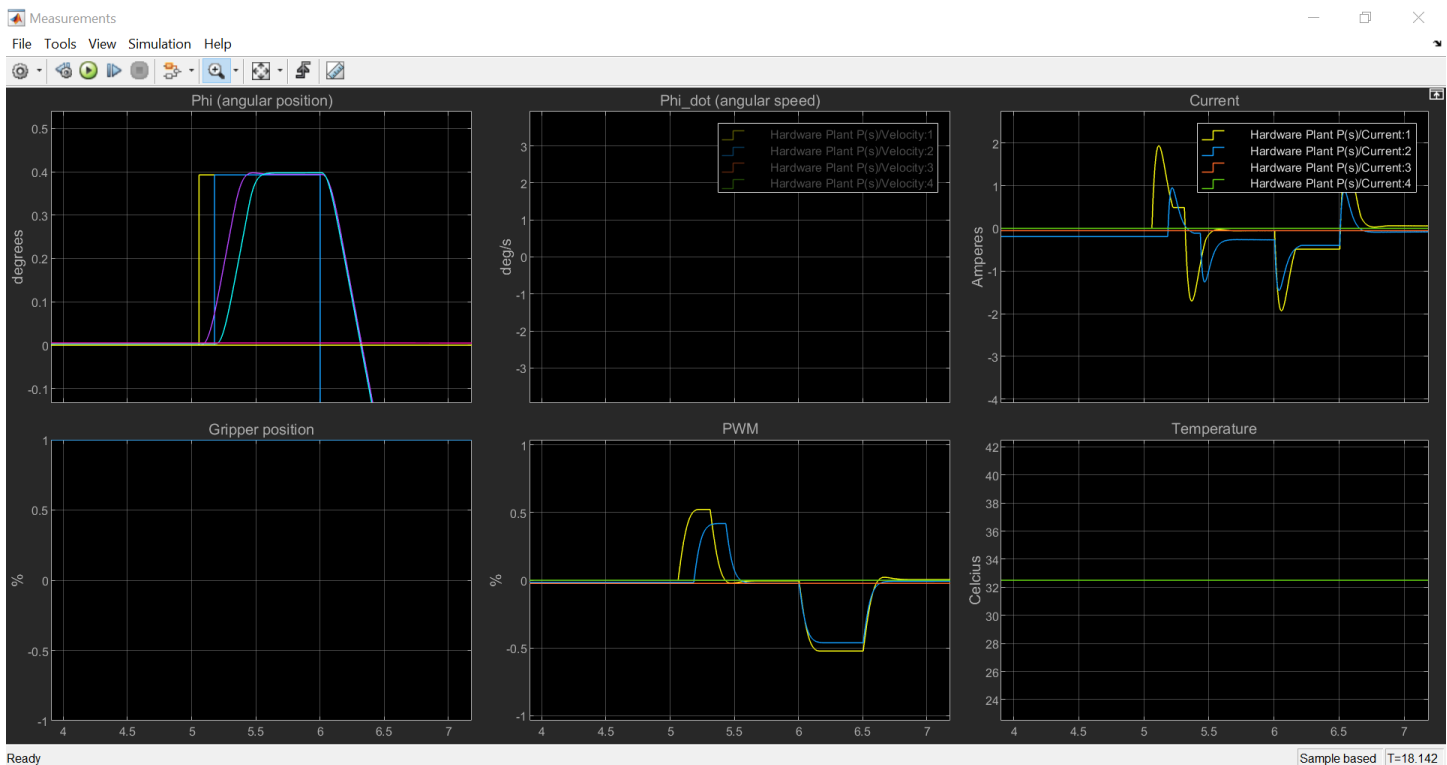

Figure 2: Sample results showing the base and shoulder joints following commanded setpoints
8. Toggle the manual switch labeled MAIN away from Default Cmd to enable commanding each of the joints a square waveform. Using the Measurements scope verify that each joint follows the commanded setpoint. Sample results are shown in Figure 2.